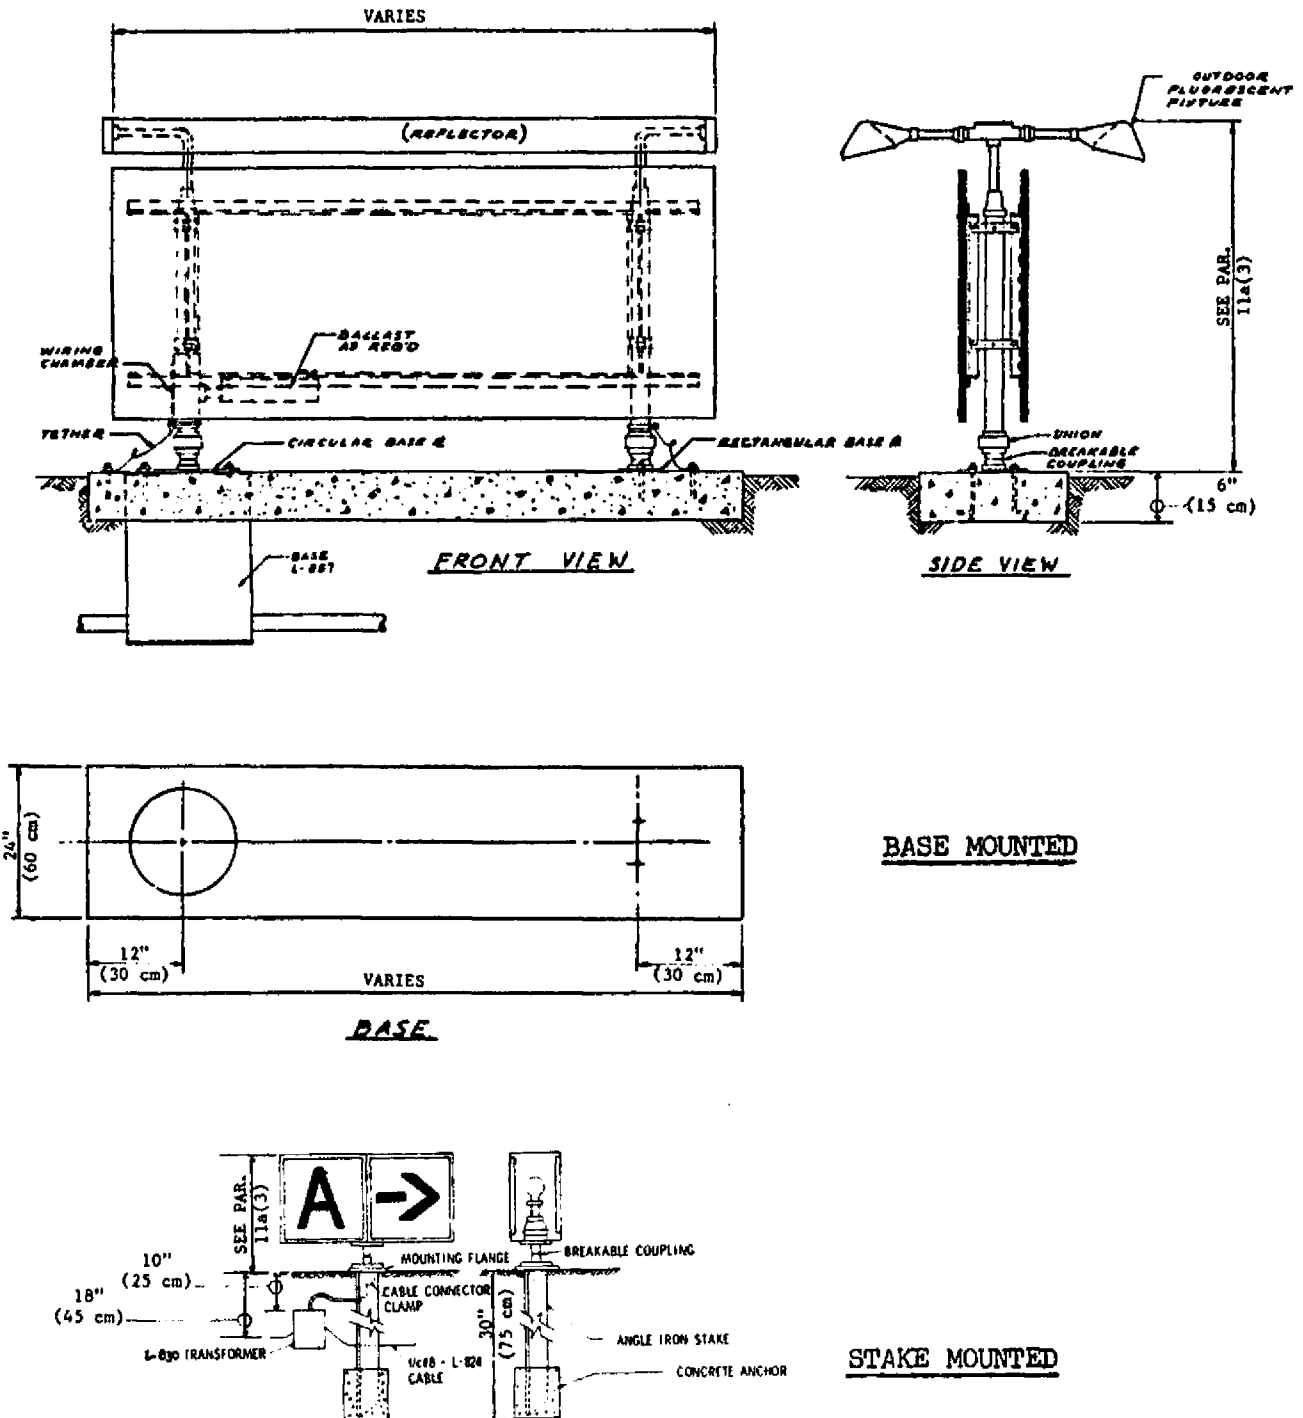

Figure 3. Typical sign mounting.
- e. Alternate Routes. At intersections or junctions of runways, taxiways, or runways and taxiways, where the possibility of alternate routes to a particular destination exists from a given direction of travel, the destination sign shall indicate only one route to follow. See Appendix 2, Figure 3(c) for detailed alternate route placement of signs.
- (3) Inbound Destination Signs. Mark inbound routes from their beginning with destination signs showing the appropriate symbols. Inbound routes usually begin at the entrance to a taxiway from a runway. Mark inbound traffic routes at the beginning with destination signs, with symbols, to show direction to only general destination areas on an airport. Provide destination signs, with symbols, showing specific areas at appropriate intersections along the inbound traffic route and closer to the general destination area. As an example, on the majority of airports, the destination signs installed at the entrances to a taxiway from a runway show, in most instances, the direction to the "RAMP," "E RAMP," "MIL," etc. Install destination signs at other locations along the inbound
c. Symbols and Arrows on Destination Signs. Place destination symbols and arrows on all destination signs to indicate the direction to taxi to the destination as shown in Appendix 2, Figure 3(b). Locate the arrow to the left of the destination symbol when the direction to taxi is straight ahead or involves a left turn. Locate the arrow to the right of the destination symbol when the direction to taxi involves a right turn. Place destination symbols consisting of runway numbers assigned in accordance with Advisory Circular 150/5340-1A on all outbound destination signs for marking outbound routes. Use the following standard symbols to identify inbound destinations:
- (1) General parking, servicing, and loading areas - RAMP
- (2) Areas specifically set aside for aircraft parking - PARK
- (3) Areas where aircraft are fueled or serviced - FUEL
- (4) Gate position at which aircraft are loaded or unloaded - GATE
- (5) Areas set aside for itinerant aircraft - VSTR
- (6) Areas set aside for military aircraft - MIL
- (7) Areas set aside for freight and cargo handling - CRGO
- (8) Areas set aside for handling international flights - INTL
- (9) Hangar or hangar area - HGR